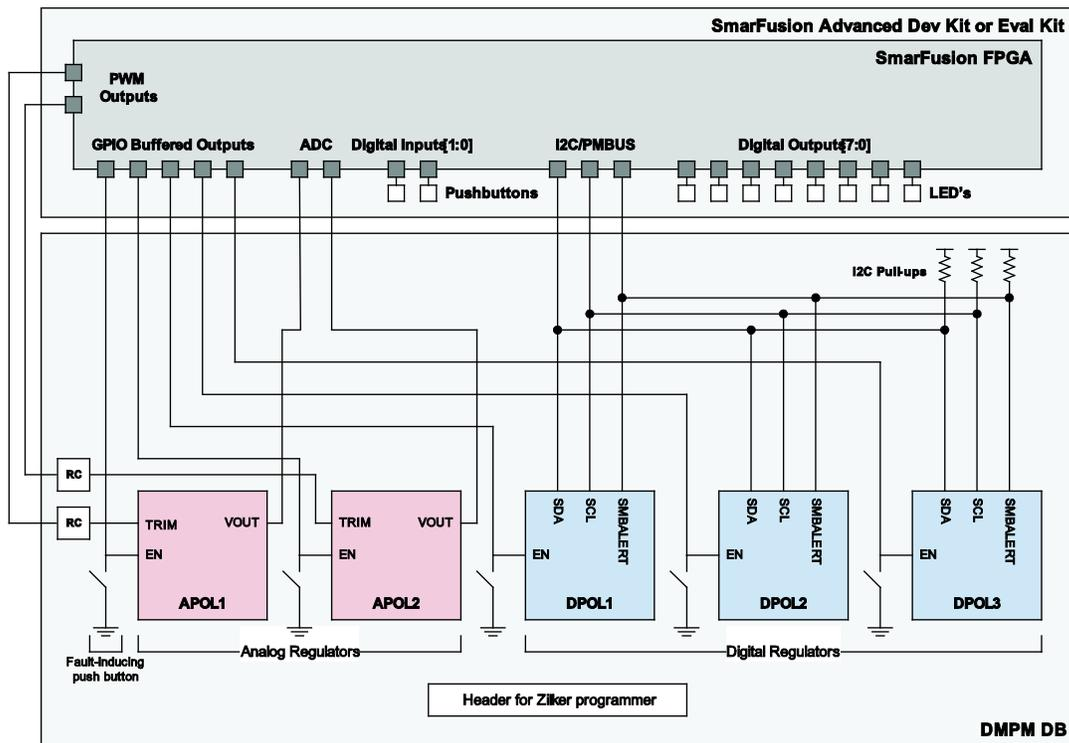

Figure 32 - MPM Daughter Card
The Digital Mixed Signal Power Manager (DMPM) Daughter Card (DC) enables system designers to evaluate and demonstrate the functionality of Microsemi's power management solutions in hardware, using a five regulator benchtop power management development system. The daughter card includes two analog regulators with adjustable bias voltage POTs, three digital regulators residing on a connectable PMBus (I2C) bus, five push buttons, and a series of LED's that may be used to demonstrate and explore MPM digital output functionality. The Figure 32 shows the MPM daughter card with its major components.